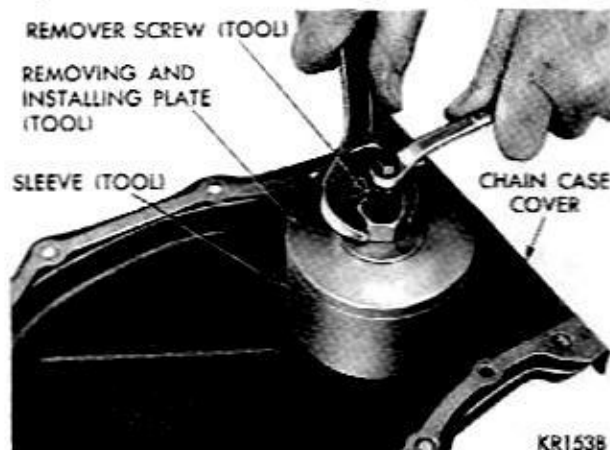

Fig. 24—Removing Oil Seal
(3) Place sleeve over retainer and place removing and installing plate into the sleeve.
(4) Place flat washer and nut on the remover screw. Hold center screw and tighten remover nut to remove the seal (Fig. 24).
(5) Insert remover screw through the removing and installing plate so thin shoulder will be facing up.
(6) Insert remover screw with the plate through seal opening (inside of chain case cover facing up).
(7) Place seal in cover opening, with neoprene down. Place seal installing plate into the new seal, with protective recess toward lip of seal retainer (Fig.